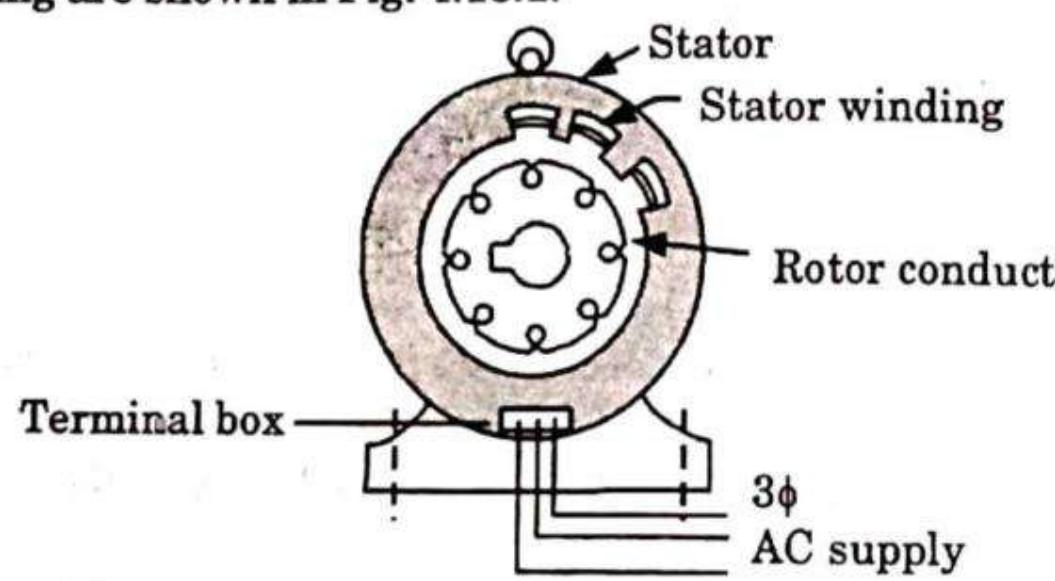

Fig. 4.18.1. Diagram of 3-phase induction motor.
5. The stator windings, stator and the AC supply connected to the stator winding are shown in Fig. 4.18.1.